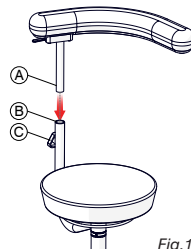

Fig.16
- Introduce the support arm axle **A** (Fig.16) through the hole **B** (Fig.16).
- Unscrew a little bit the knob **C** (Fig.16) and ensure the axle **A** is well installed.